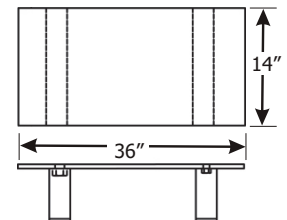

Figure 8
1. Mount the push-button control panel (B) so bottom of control panel-to-dock floor distance (C) is 48 in. (1219 mm). See Figure 8.
2. Install electrical disconnect panel (A) if not already installed. Disconnect panel supplied by others.